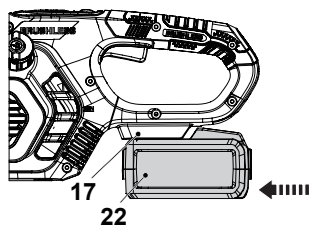

Fig. 13
1. Align the battery pack (22) with the sliding slots of the battery docking port (17) and slide the battery pack (22) in to attach it. Ensure it clicks in place (Fig. 13).